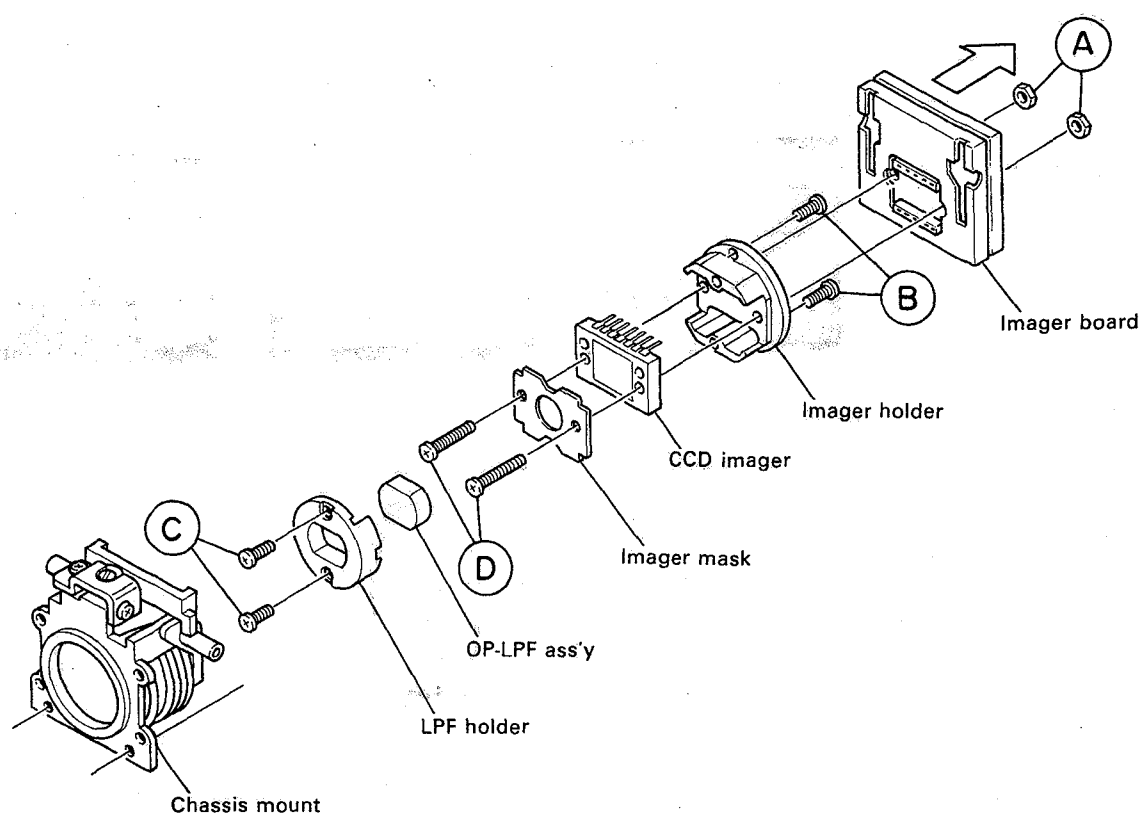

Fig. 3.
- (1) Detach the imager section from the chassis in accordance with "2-4 Removing the chassis mount".
- (2) Remove the two nuts (A) shown in Fig. 3, and take out the imager board in the direction of the arrow.
- (3) Remove the two screws (B) shown in Fig. 3, and the imager holder section and the chassis mount section will be detached.
- (4) Remove the two screws (C) shown in Fig. 3, and take out the LPF holder.
- (5) Remove the two screws (D) shown in Fig. 3, and take out the CCD imager.
Take out the dust cover and remove the two screws (C) shown in Fig. 3, and the LPF holder will be released so that the optical low pass filter can be detached.